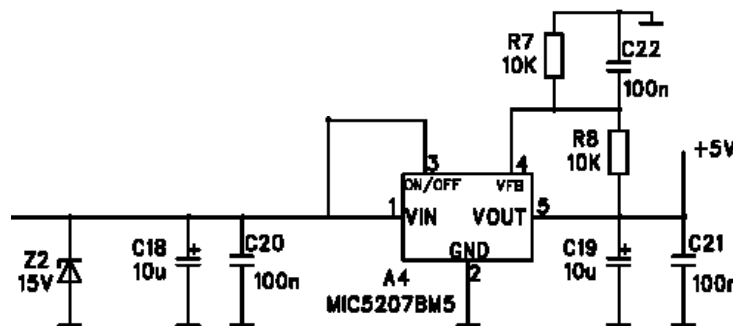

Figure 1. Typical supply voltage regulator circuitry
3. Typical 7-30V supply voltage regulator circuitry that can be used is shown in Figure 1.